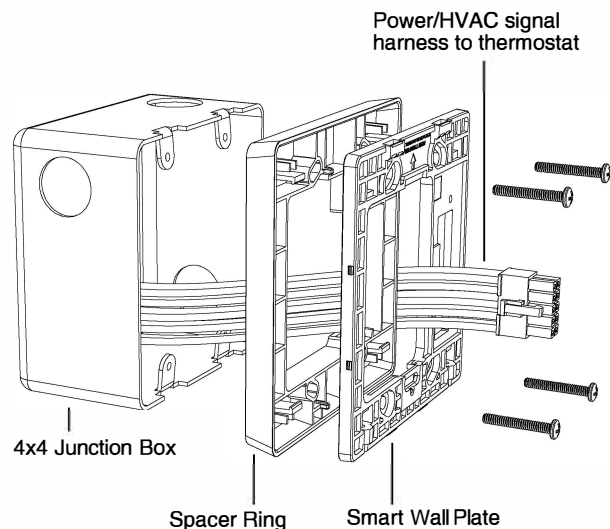

Fig. 1. e7 Exploded View Assembly Reference
1. Position the Spacer Ring and Smart Wall Plate as shown in Fig. 1.